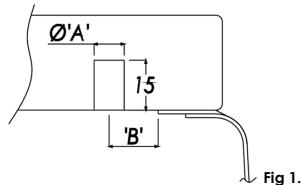

Fig 1.
- When creating the cut-out aperture, you should also create a series of holes in the reverse face of the worktop to accept the undermount bracket inserts. The holes should be sized and positioned away from the edge of the sink as shown in Fig 1. All brackets supplied should be used and spaced equally around the perimeter. Where the sink has long and short sides more brackets should be used on the longer sides.